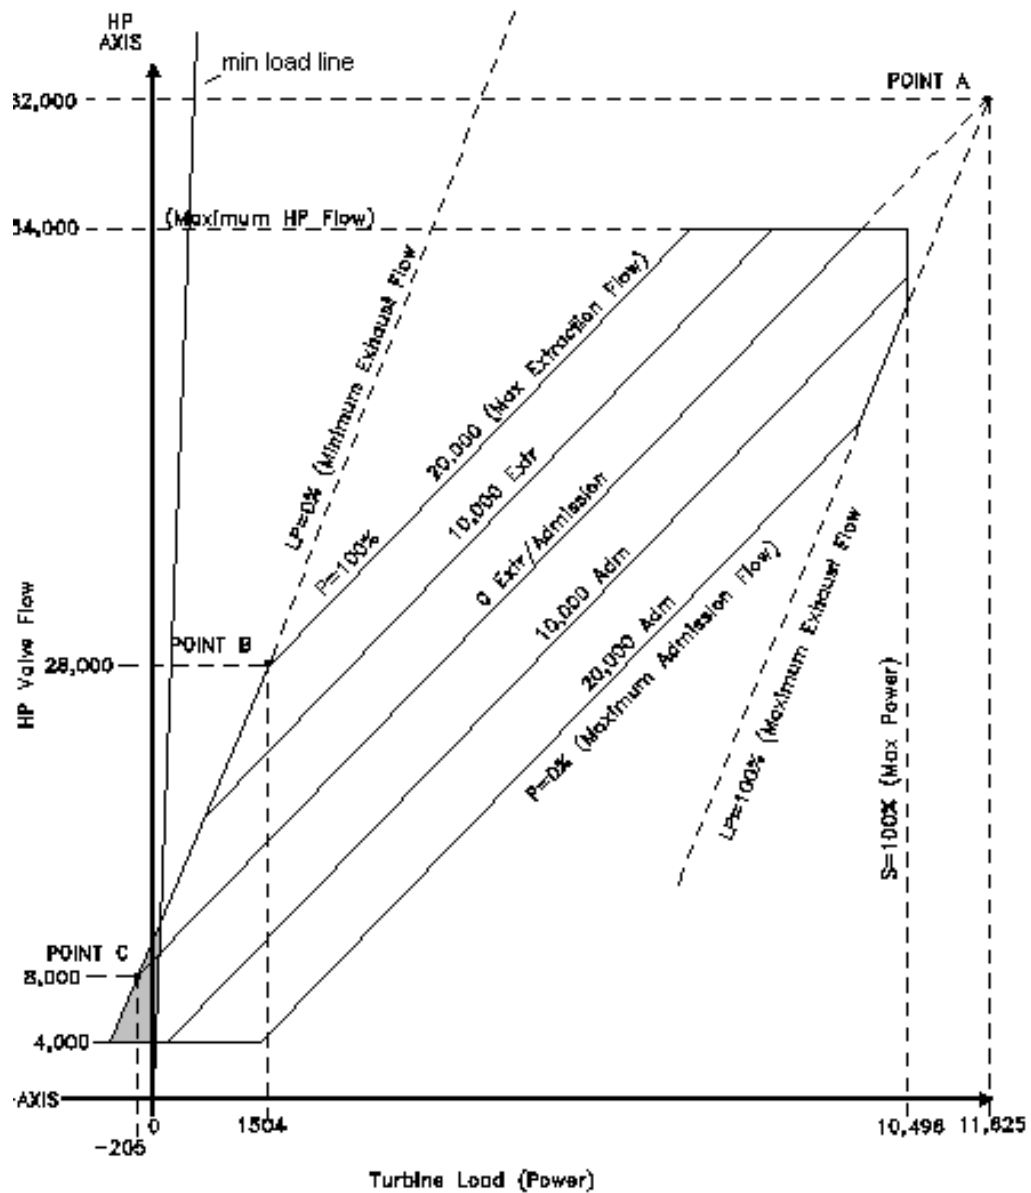

Figure 3-3. Typical Extraction & Admission Steam Map
Extraction & Admission Steam Map—Before a turbine's extraction/ admission steam map can be programmed into the control, it must have the intersection points A, B, & C (refer to figure 3-3).
If points B & C do not exist, your map will have to be modified to include points B & C. The LP=0 line will need to be created. To create the LP=0 line you must know the minimum required steam flow through the back-end of the turbine. In our example steam map (figure 3-3) the minimum required flow was 8,000 lbs/hr.
1. Extend the maximum extraction line. Refer to figure 3-3.
The ten values needed can be taken from the converted steam map. An example has been provided below, using the steam map in Figure 3-3: